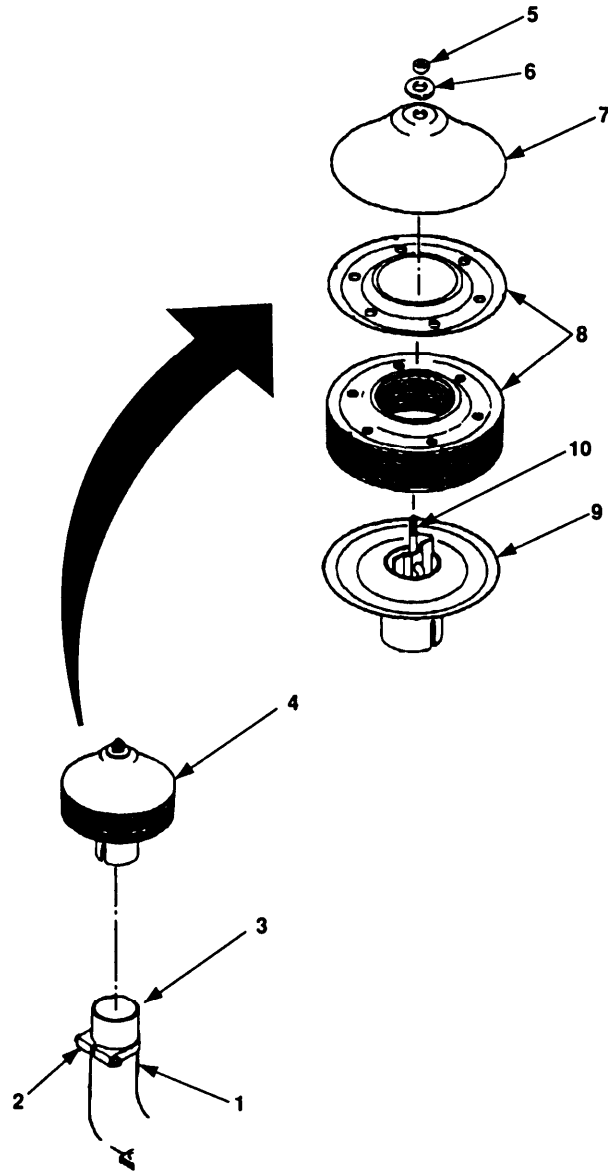

Figure 4-2. Spark Arrester Maintenance.
- a. Loosen nut (figure 4-2, 1) that secures clamp (2).
- b. Slide clamp (2) onto exhaust pipe (3).
- c. Remove spark arrestor (4).
- e. Inspect baffles (8) for cracks, holes or other damage.
- f. Check base (9) for cracks and holes.
- g. Position mounting stud (10) in base (9).
- h. Align indentations of baffles (8) and position to base (9) as indicated in figure 4-2.
- i. Install cap (7), washer (6) and thread nut (5) on to mounting stud (10). Tighten nut.